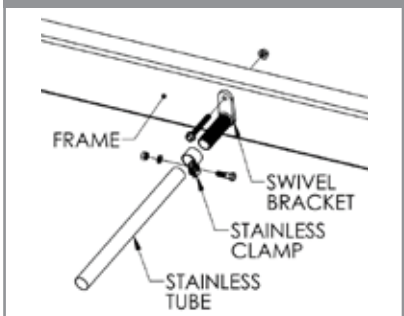

FIGURE 9
- Place the (10003106) poly end cap into the end of the stainless tube. **(See Figure 9)**